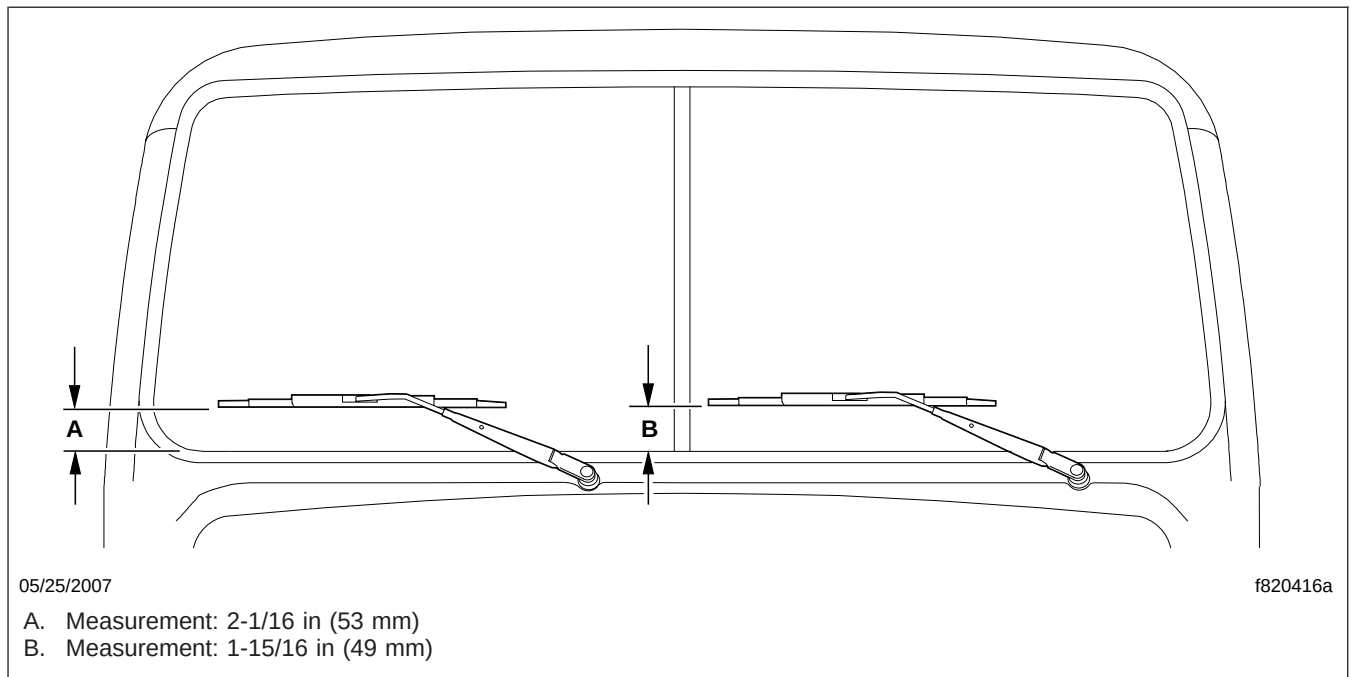

Fig. 8, Windshield Wiper Park Position
13. Test the wiper motor and washers. Operate the wipers at low speed and check that the blades do not slap against the mask around the edge of the windshield, and that the wipers park as shown in Fig. 8. In the parked position, the end of the right-hand wiper blade should be 2-1/16 inches (53 mm) above the bottom edge of the windshield, and the end of the left-hand wiper blade should be 1-15/16 inches (49 mm) above the bottom edge of the windshield.